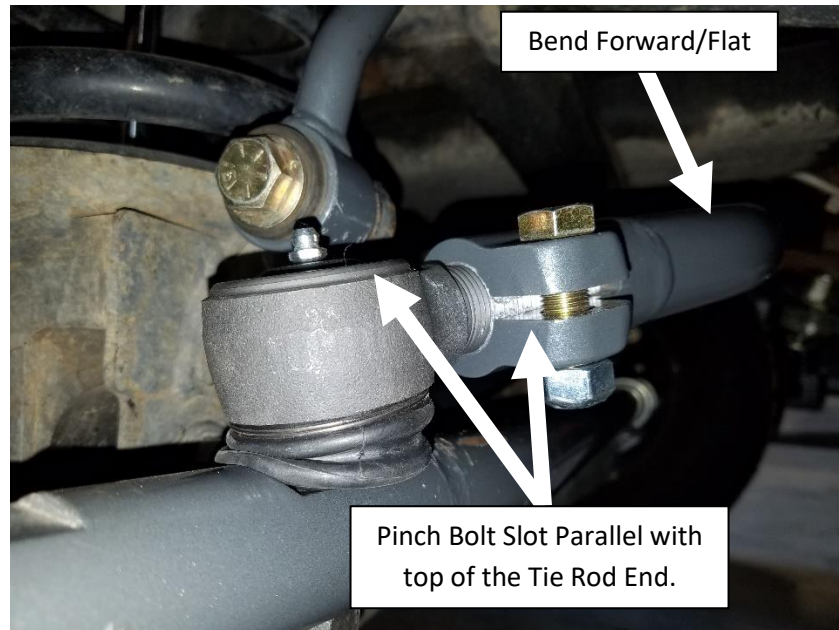

Figure 16. Pinch Bolt Style Drag Link Tie Rod End Correct Alignment
23. Align the drag link so pinch bolt forging is forward and the bend is flat. Tighten the pinch bolt on the tie rod side, you do not need to fully torque it at this time. Tightening the pinch bolt will 'lock' the drag link into position. The tie rod end that goes from the drag link into the tie rod is a single plane tie rod end that will prevent the drag link from 'flopping'. See **Figure 16**.